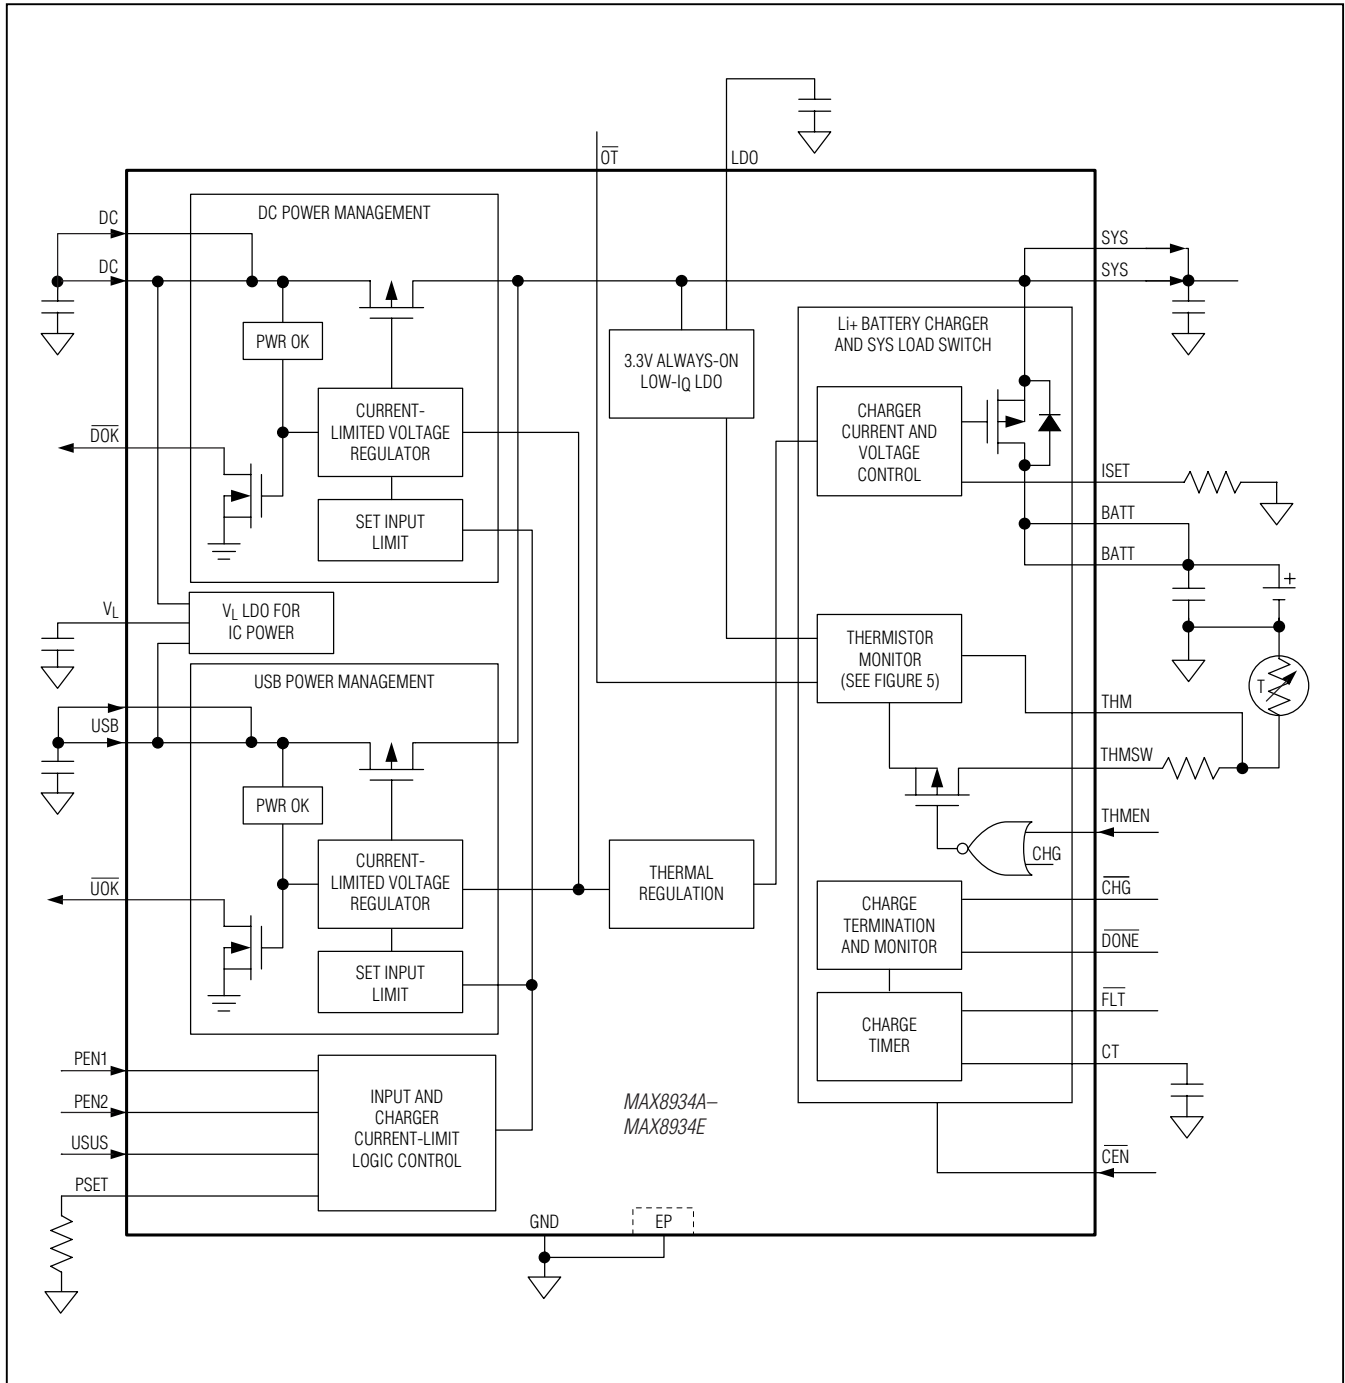
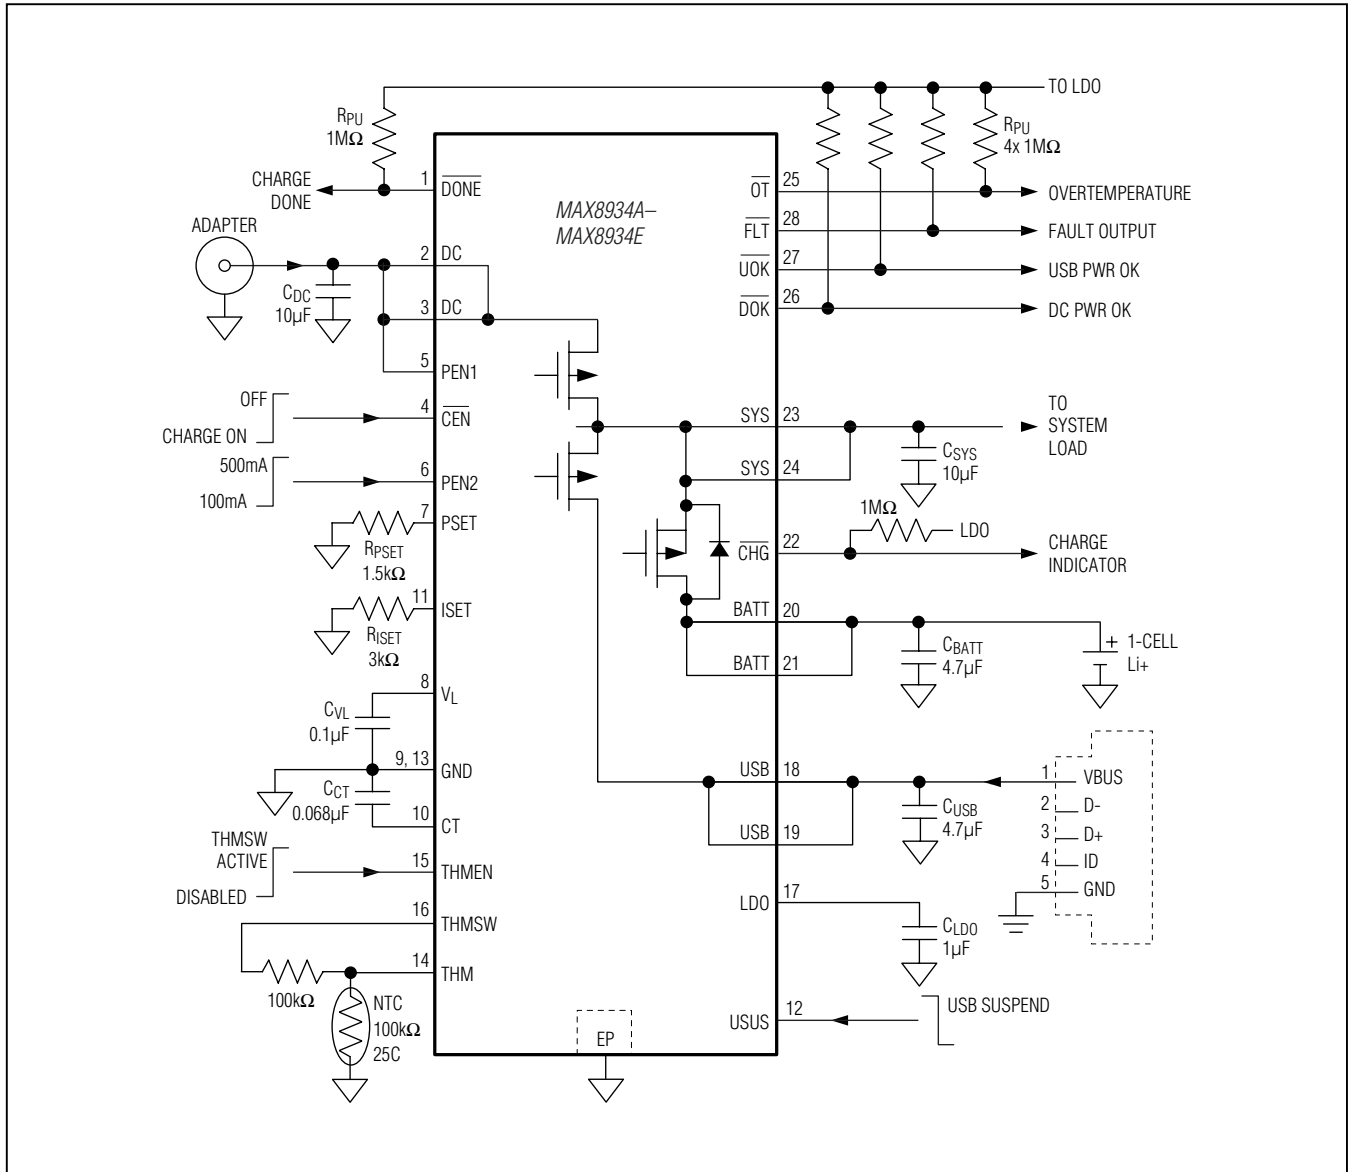

Figure 1. Block Diagram
Figure 2. Typical Application Circuit Using Separate DC and USB Connector
(MAX8934A,  $T_A = +25^\circ\text{C}$ , circuit of Figure 2,  $V_{DC} = 6\text{V}$ ,  $V_{BATT} = 3.6\text{V}$ , thermistor Beta = 3964, unless otherwise noted. Negative battery current indicates charging.)
**Table 1. External Components List for Figures 2 and 3**
The MAX8934\_ is a dual-input linear charger with Smart Power Selector that safely charges a single Li+/Li-Poly cell in accordance with JEITA specifications\*. The MAX8934\_ integrates power MOSFETs and control circuitry to manage power flow in portable devices. See Figure 1. The charger has two power inputs, DC and USB. These can be separately connected to an AC adapter output and a USB port, or the DC input could be a single power input that connects to either an adapter or USB. Logic inputs, PEN1 and PEN2, select the correct current limits for two-input or single-input operation. Figure 2 is the typical application circuit using separate DC and USB connectors. Figure 3 is the typical application circuit using a 5-pin USB connector or another DC/USB common connector.